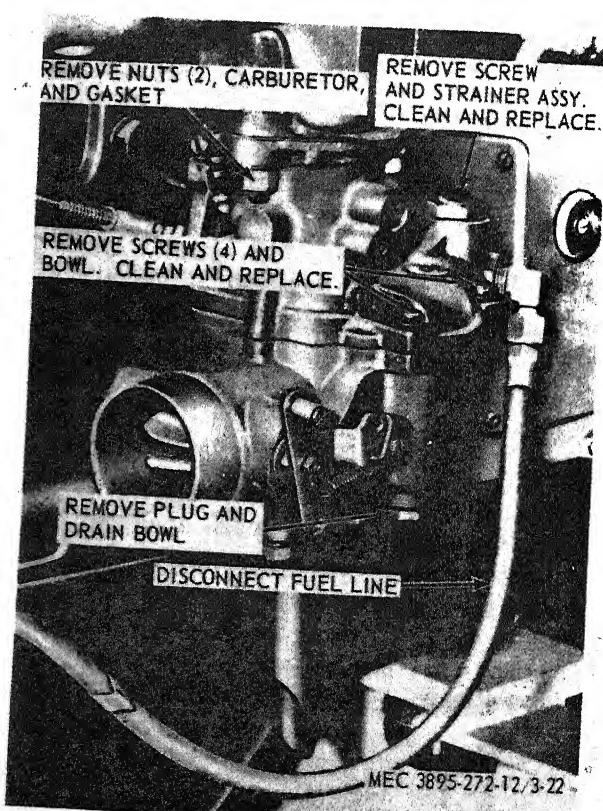

Figure 3-22. Carburetor, removal, installation, and service.
(1) Disconnect the control linkage from the carburetor.
(2) Remove air cleaner hose from carburetor.
(3) Remove the carburetor as instructed on figure 3-22.
- (1) Install the carburetor in reverse of the instructions on figure 3-22. Put in new gasket between flange and mounting pad.
- (2) Connect the control linkage to the carburetor.
- (3) Connect air cleaner hose to carburetor.
- (4) Adjust the carburetor (par 3-9).
- (1) Service the carburetor as instructed on figure 3-22.
- (2) Adjust the carburetor (para 3-9).